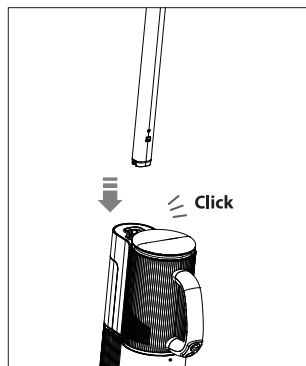

Fig. 5 – Handle assembly
- ▶ Push the handle into the appliance body as far as it will go until you hear it click into place. The handle must sit firmly in the appliance (see Fig. 5).